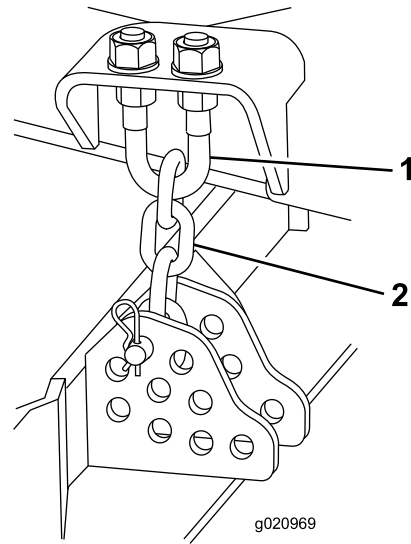

Figure 122
4. Remove the hairpin cotter and clevis pin securing the height-of-cut chains to the rear of the cutting unit (Figure 122).